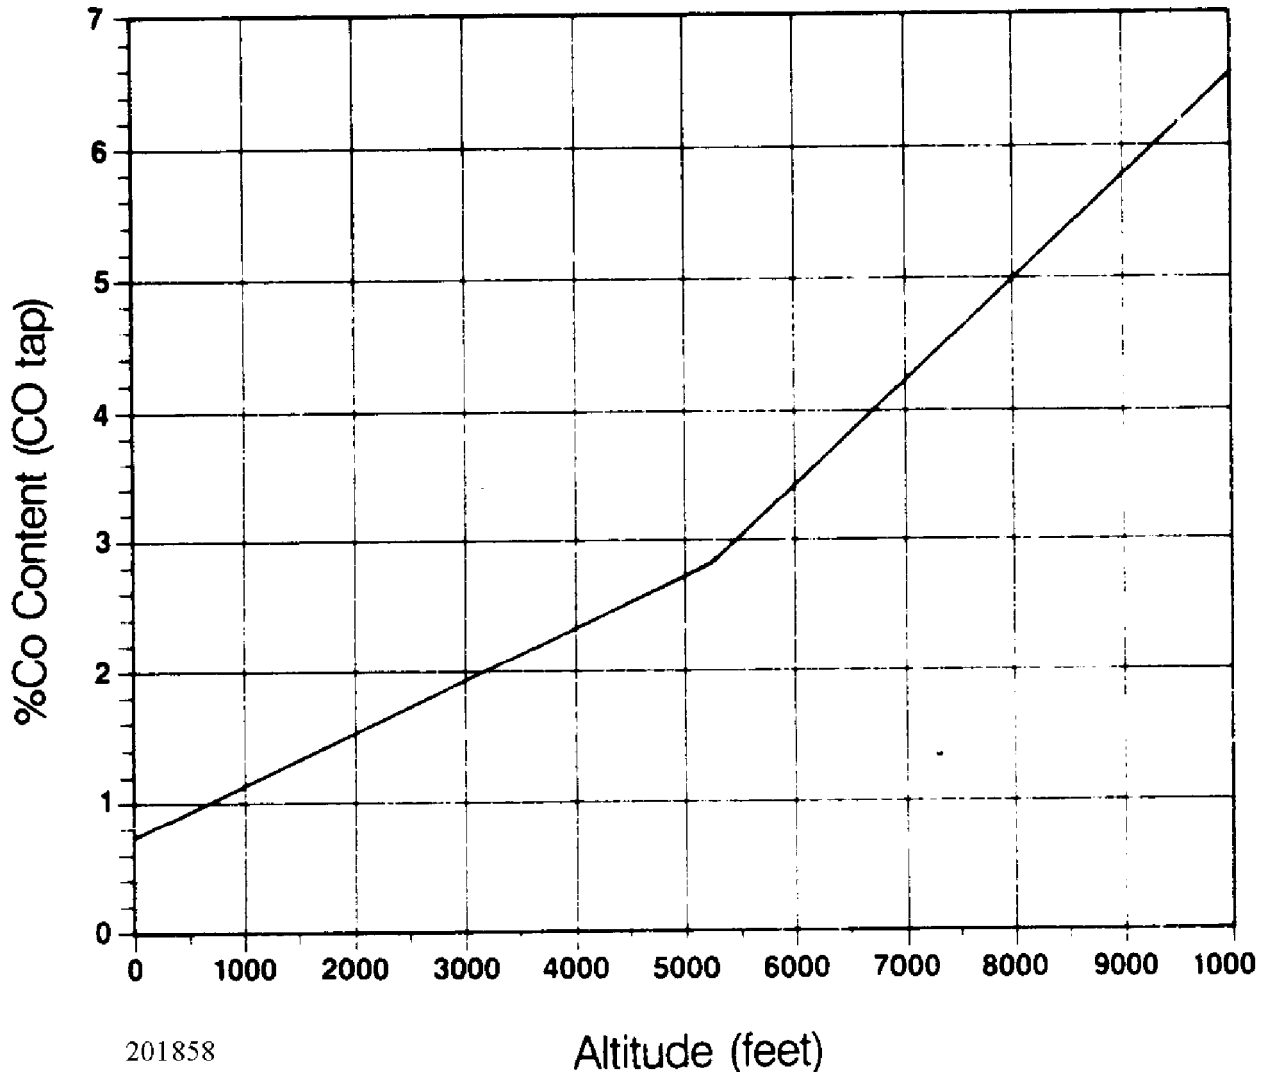

Fig. 7: Idle Mixture C0 Specification Chart
5) To change the idle mixture C0, remove the anti-tampering plug in the top of the air flow sensor housing. With the plug removed, adjust the idle mixture using a 5 mm hex wrench. Adjust the C0 idle mixture to the specification on Fig. 7.